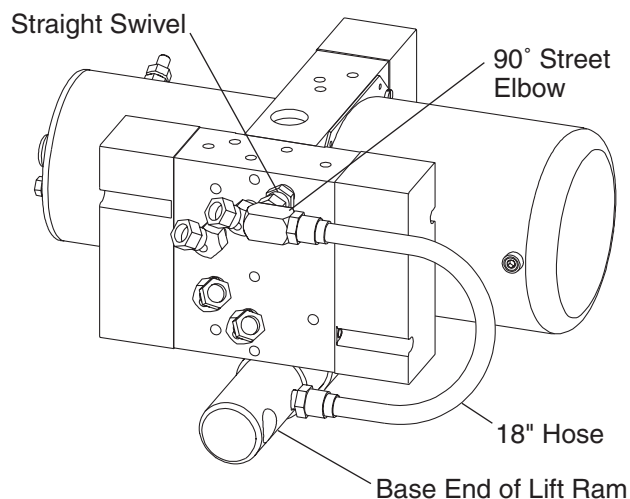

Figure 11
8. Attach 90° street elbow to the 18" hydraulic hose. Attach hose to base end of lift ram. Attach other end with 90° fitting to straight swivel fitting. **Verify there is no twist in the hose.** Twisting could damage the hose. (See Figure 11.)